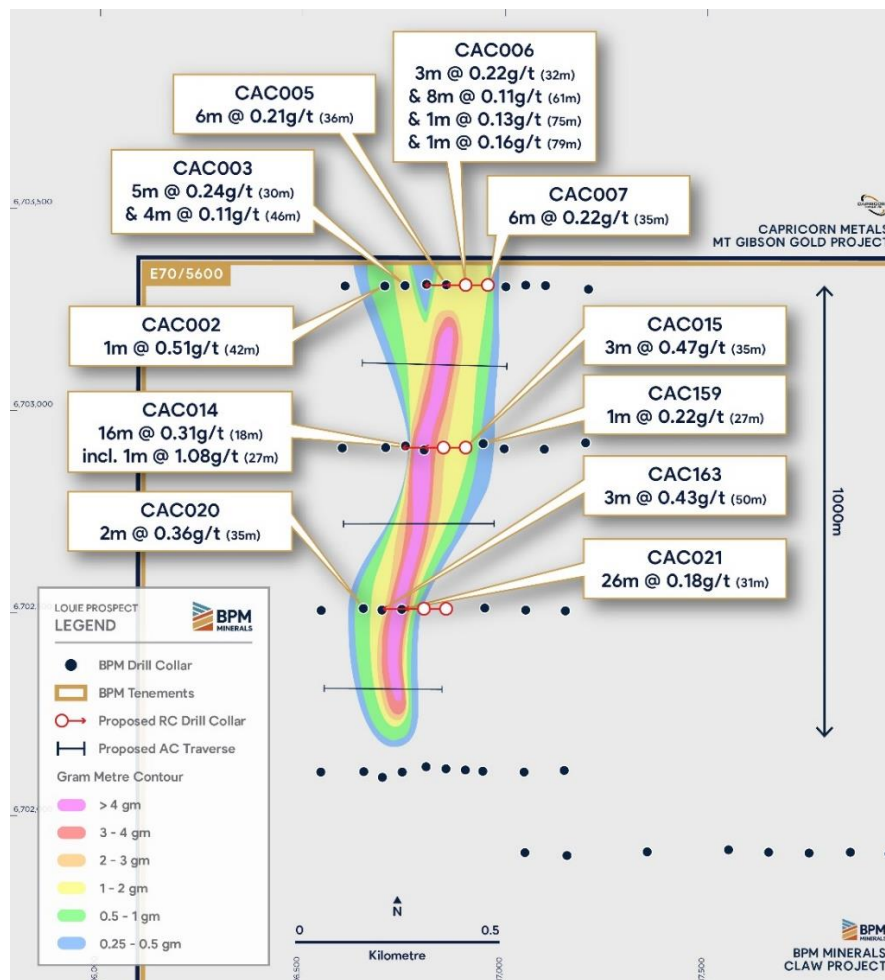

Fig. 1 - Louie Prospect - Aircore Drilling Results
- Latest assay results from AC drilling at the Louie Prospect validate a substantial +1 km long, +100ppb Au gold anomaly in regolith, immediately along strike of Capricorn Metals 3.24Moz MGGP¹, located 300km NE of Perth (Figure 1).
Additional AC holes were drilled at the end of the recently completed drill program adjacent to the previously announced anomalous holes to help constrain the anomaly for deeper RC drilling. The additional holes, as well as the re-sampling and assaying of anomalous composite samples, has further constrained the gold anomaly, confirming a coherent +1,000m long, +100ppb gold in regolith anomaly (Fig. 1). The trend consists of 12 holes containing mineralisation +100ppb, with the following highlights: